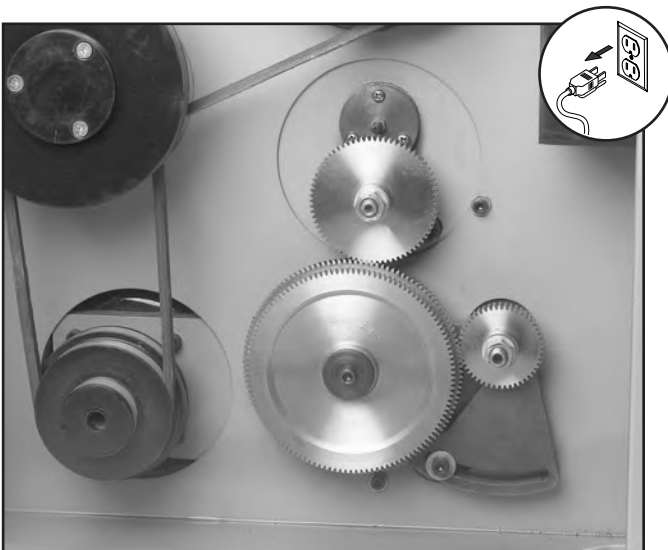

Figure 45. Gears aligned and engaged.
8. Rotate the support arm until gears B and A are engaged. Tighten the cap screw at the bottom of the gear support arm (**Figure 45**), showing the gears properly aligned and engaged.